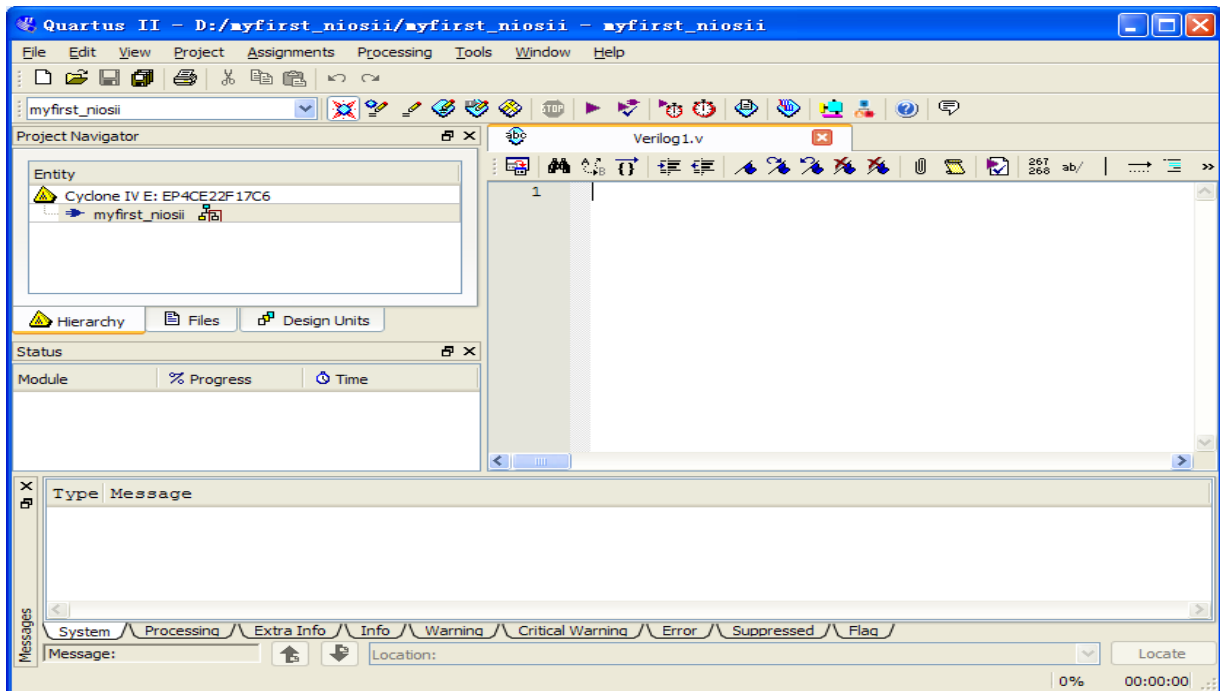

Figure 7-42 A blank verilog file
33. Choose **Verilog HDL File** and click **OK** to return to the window as shown in **Figure 7-42**.
Figure 7-42 show a blank verilog file.